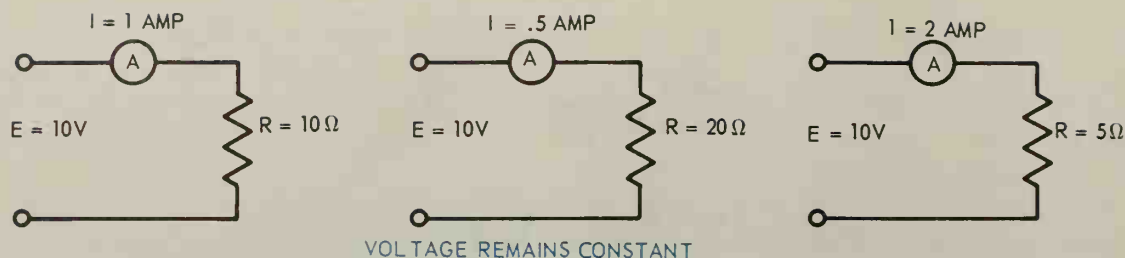

Fig. 4-2. The current in a circuit is inversely proportional to the resistance.
2. The current in a circuit is INVERSELY PROPORTIONAL to its resistance. In Fig. 4-2, for example, the circuit has 10 ohms of resistance and a current of 1.0 amperes flowing. If the resistance is increased to 20 ohms, the current DECREASES to .5 amperes. If the resistance is reduced to 5 ohms, the current INCREASES to 2 amperes.